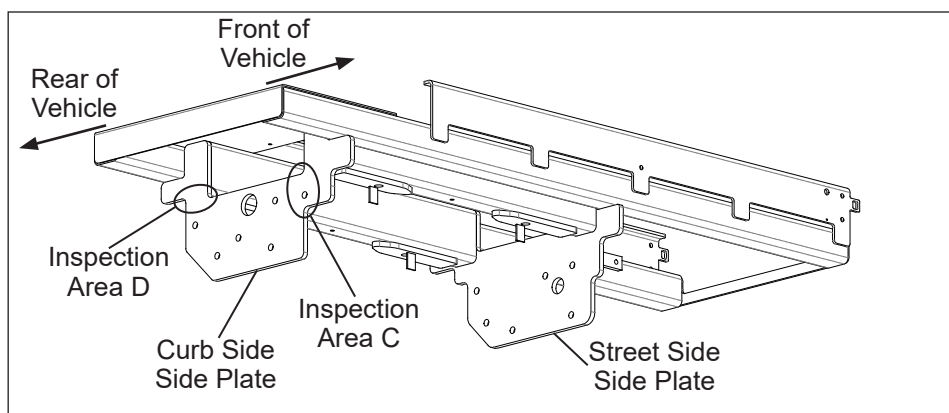

**Figure 3 — Mounting Frame**
2. Find the mounting frame under the vehicle (refer to Figure 3).